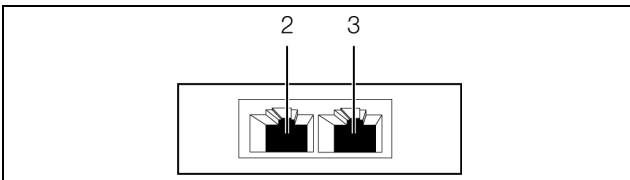

Fig. 7: Rear of the temperature/humidity sensor
- Use a CAN bus connection cable to connect the temperature/humidity sensor to a CAN bus interface on the CMC III Processing Unit or the neighbouring component on the CAN bus (fig. 7, item 2).
- If necessary, connect another component (e.g. another sensor type) to the second, free CAN bus interface of the temperature/humidity sensor (fig. 7, item 3).